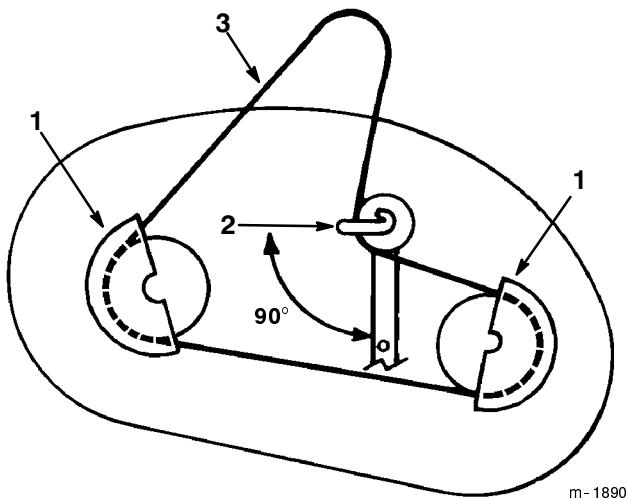

Figure 48
2. Remove the pulley cover mounting screws and pulley covers from both blade pulleys (Fig. 48).
3. Loosen, but do not remove, the bolt and nut securing the idler pulley and belt guide (Fig. 48).
2. Position the idler pulley belt guide so it points toward the left, 90° to the idler arm (Fig. 48). Tighten the mounting bolt and locknut securing the idler pulley and belt guide.
3. Install the left and right pulley covers with the mounting screws (Fig. 48).